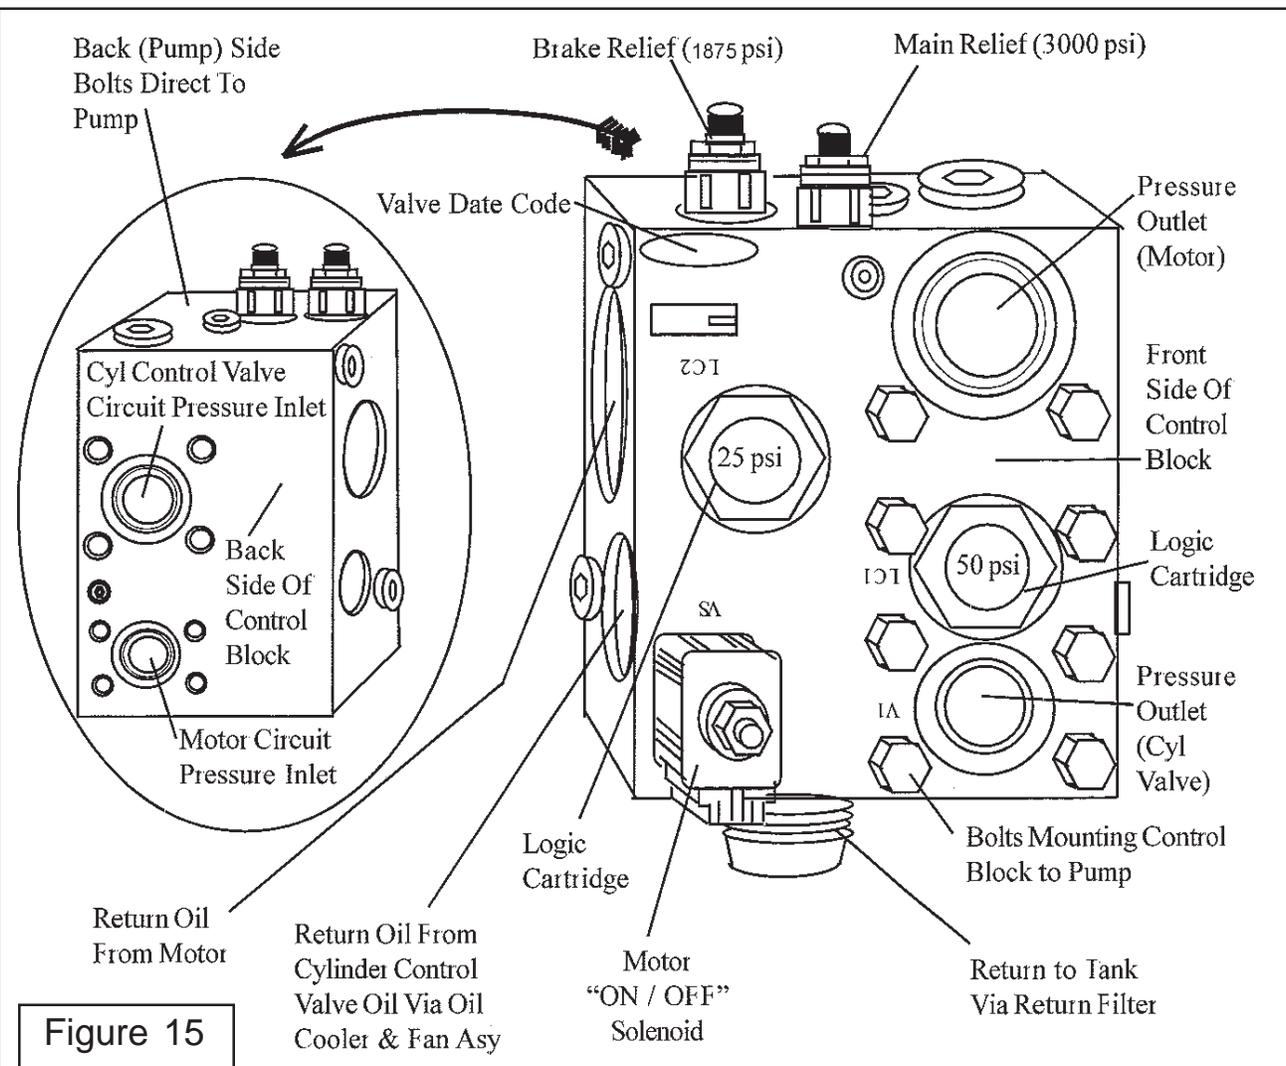

Figure 15
**12. Routing Boom Hoses to Pump** Boom hose to pump will be routed on RH Side of tractor, They are run through sleeving material and hose support bracket (See Figure 15). The Pump hoses must be connected correctly to boom and pump. There are 2 Pump to motor hoses and 1 motor case drain return hose for a total of 3. (Note Motor Case Drain hose will be run through the Oil Cooler and then return to tank).
**13. Pump Hose Routing at Tank.** Hose routing at tank is shown as reference to Pump hose routing which most will already be connected when tank and pump asy is shipped from factory. All hoses you must disconnect and reconnect during pump and/or tank asy, refer to this figure for the correct location of hose (See Figure 15).